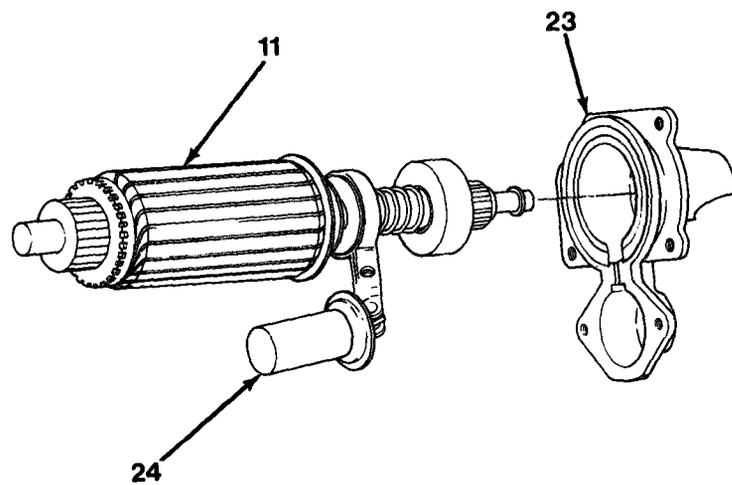

Figure 10-8
9. Separate armature (11) and plunger (24) with shift lever attached from drive housing (23, Figure 10-8).